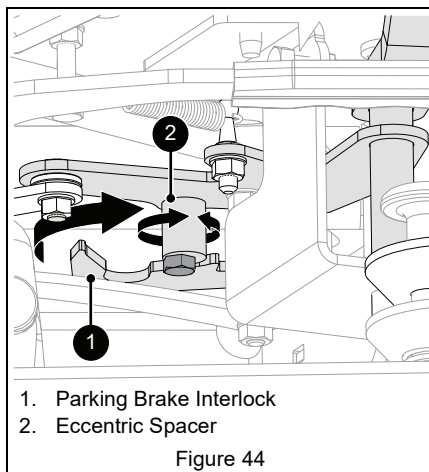

Figure 44
5. Engage parking brake and rotate eccentric spacer so it aligns in brake interlock. See Figure 44.